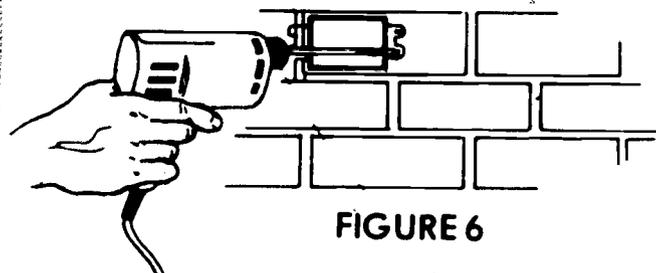

FIGURE 6
2. Drill hole to marked depth (Figure 6)